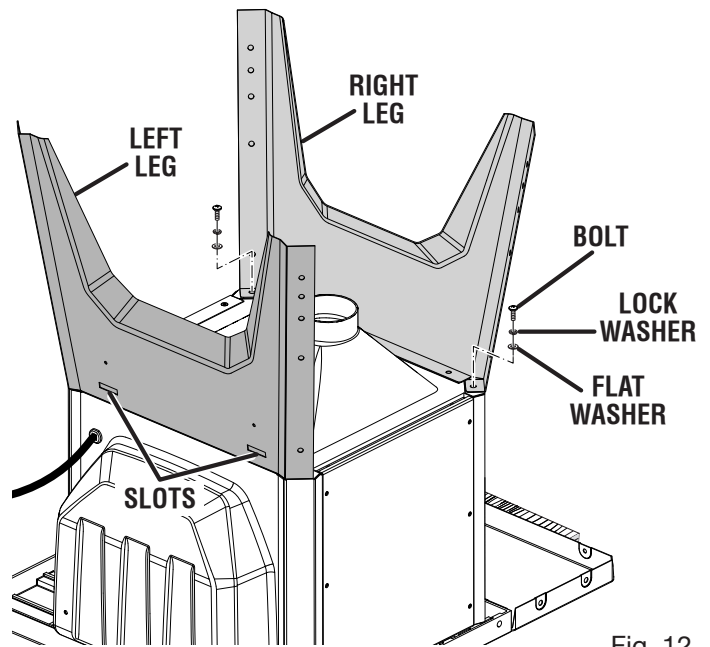
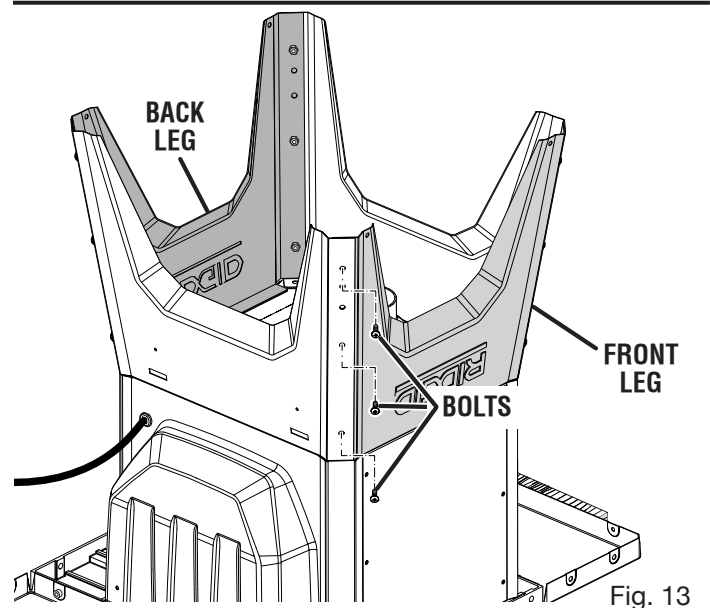

Fig. 12
Fig. 13
See Figures 12 - 13.
- With the table saw in the upside down position, place the left and right legs on the saw cabinet as shown in figure 12.
- Use the 6 mm hex key to tighten the bolts that secure the legs to the cabinet (see figure 12). Use the 4 mm hex key to tighten the bolts that secure the legs to each other (see figure 13). Tighten all bolts securely.